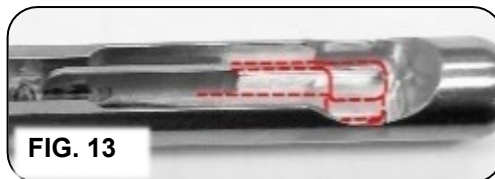

FIG. 13
3. Visually inspect the device for damaged latches or other parts. For example, see the broken lever latch outline of FIG. 13 and the bent lever latch of FIG. 14. If parts are damaged, discontinue use of the device in surgery, but complete reprocessing.